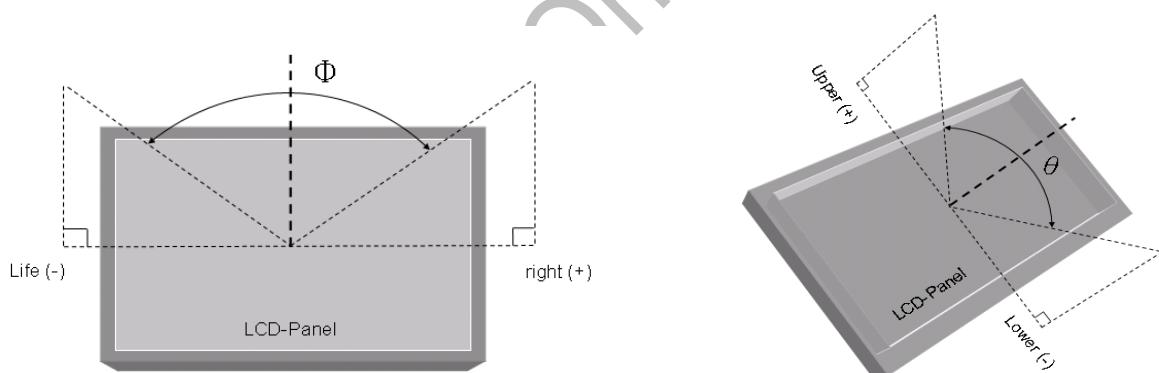

Fig.7-2 Definition of Viewing Angle
*4) Definition of Viewing Angle(θ, ψ), refer to Fig.7-2 as below :